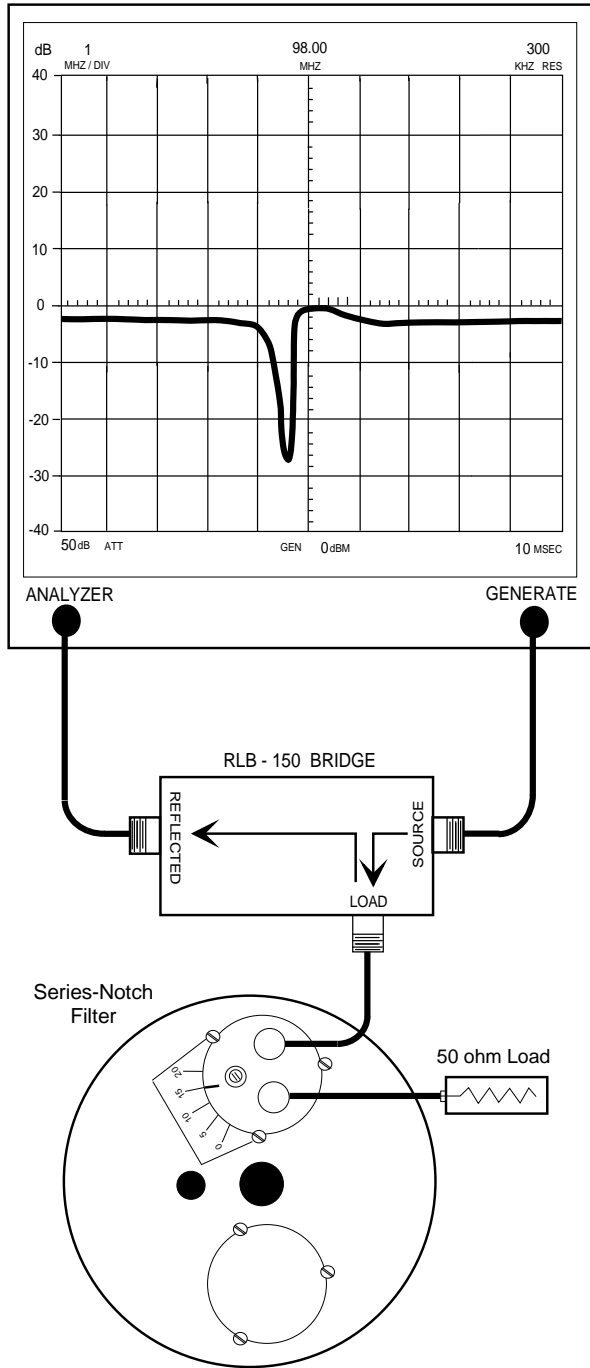

Figure 8: Checking passband frequency.
7. Connect the "load" port on the RLB to the input of the loop plate, make sure the output of the loop plate is connected to a 50 ohm load, refer to figure 8. The display will now present the return loss response curve for the Series-Notch filter being measured.